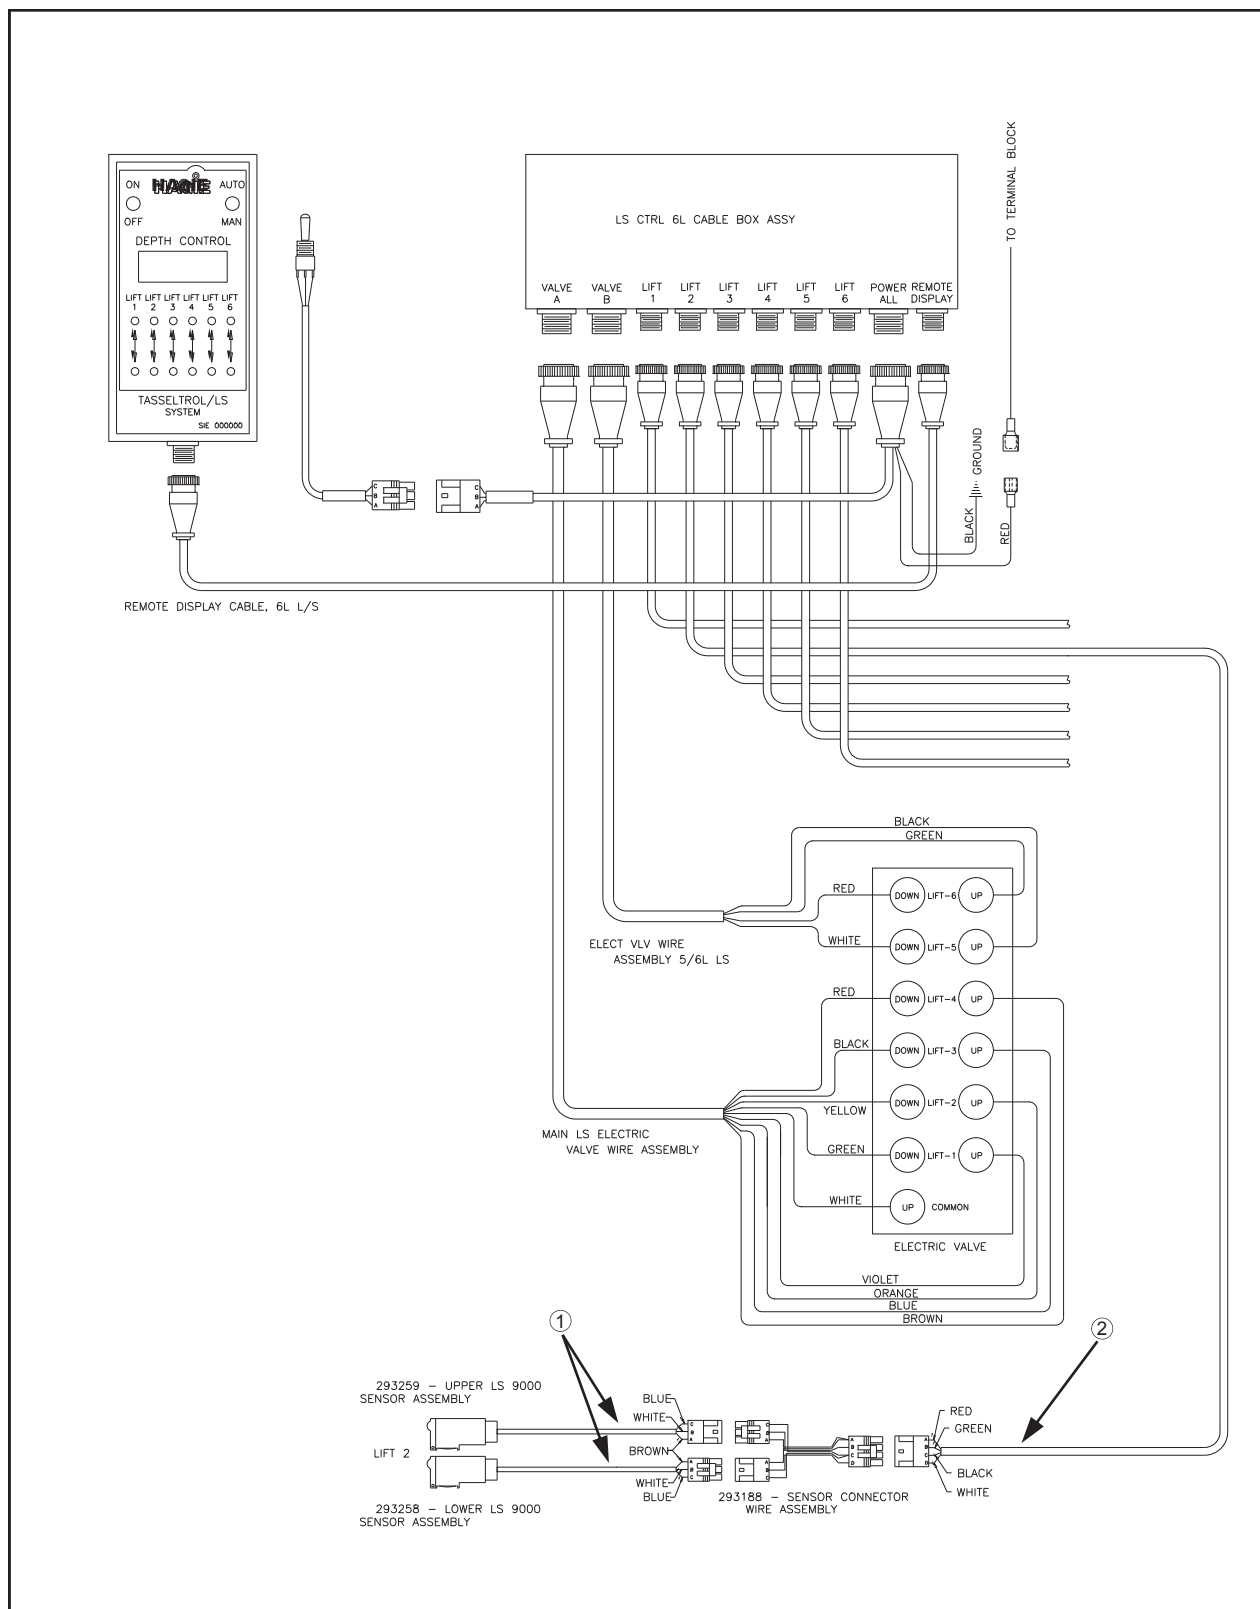

FIG 5.1
No lights at either photo sensor	Faulty connector cable (See page 31, fig. 5.1, item 2) Faulty RED and/or BLACK wire in connector cable (See page 31, fig. 5.1, item 1)
Lights at lower photo sensor	<p>Faulty GREEN wire in connector cable (See page 31, fig. 5.1, item 2)</p> <p>Photo sensor not in line with reflector</p> <p>Faulty BLUE wire in sensor assembly (See page 31, fig. 5.1, item 1)</p>
No lights at lower photo sensor	<p>Faulty RED and/or BLACK wire in connector cable (See page 31, fig. 5.1, item 2)</p>
Lights at upper photo sensor	Faulty WHITE wire in sensor assembly (See page 31, fig. 5.1, item 1) Faulty BLUE wire in sensor assembly (See page 31, fig. 5.1, item 1)
No lights at upper photo sensor	Faulty RED and/or BLACK wire in connector cable (See page 31, fig. 5.1, item 2)